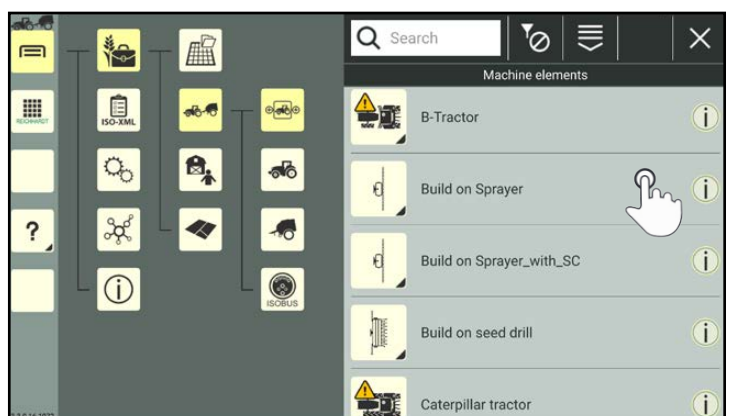

Fig. 314: Selecting a machine combination element
3. Tap to select the required machine combination element from the machine list that is displayed (see Fig. 314).